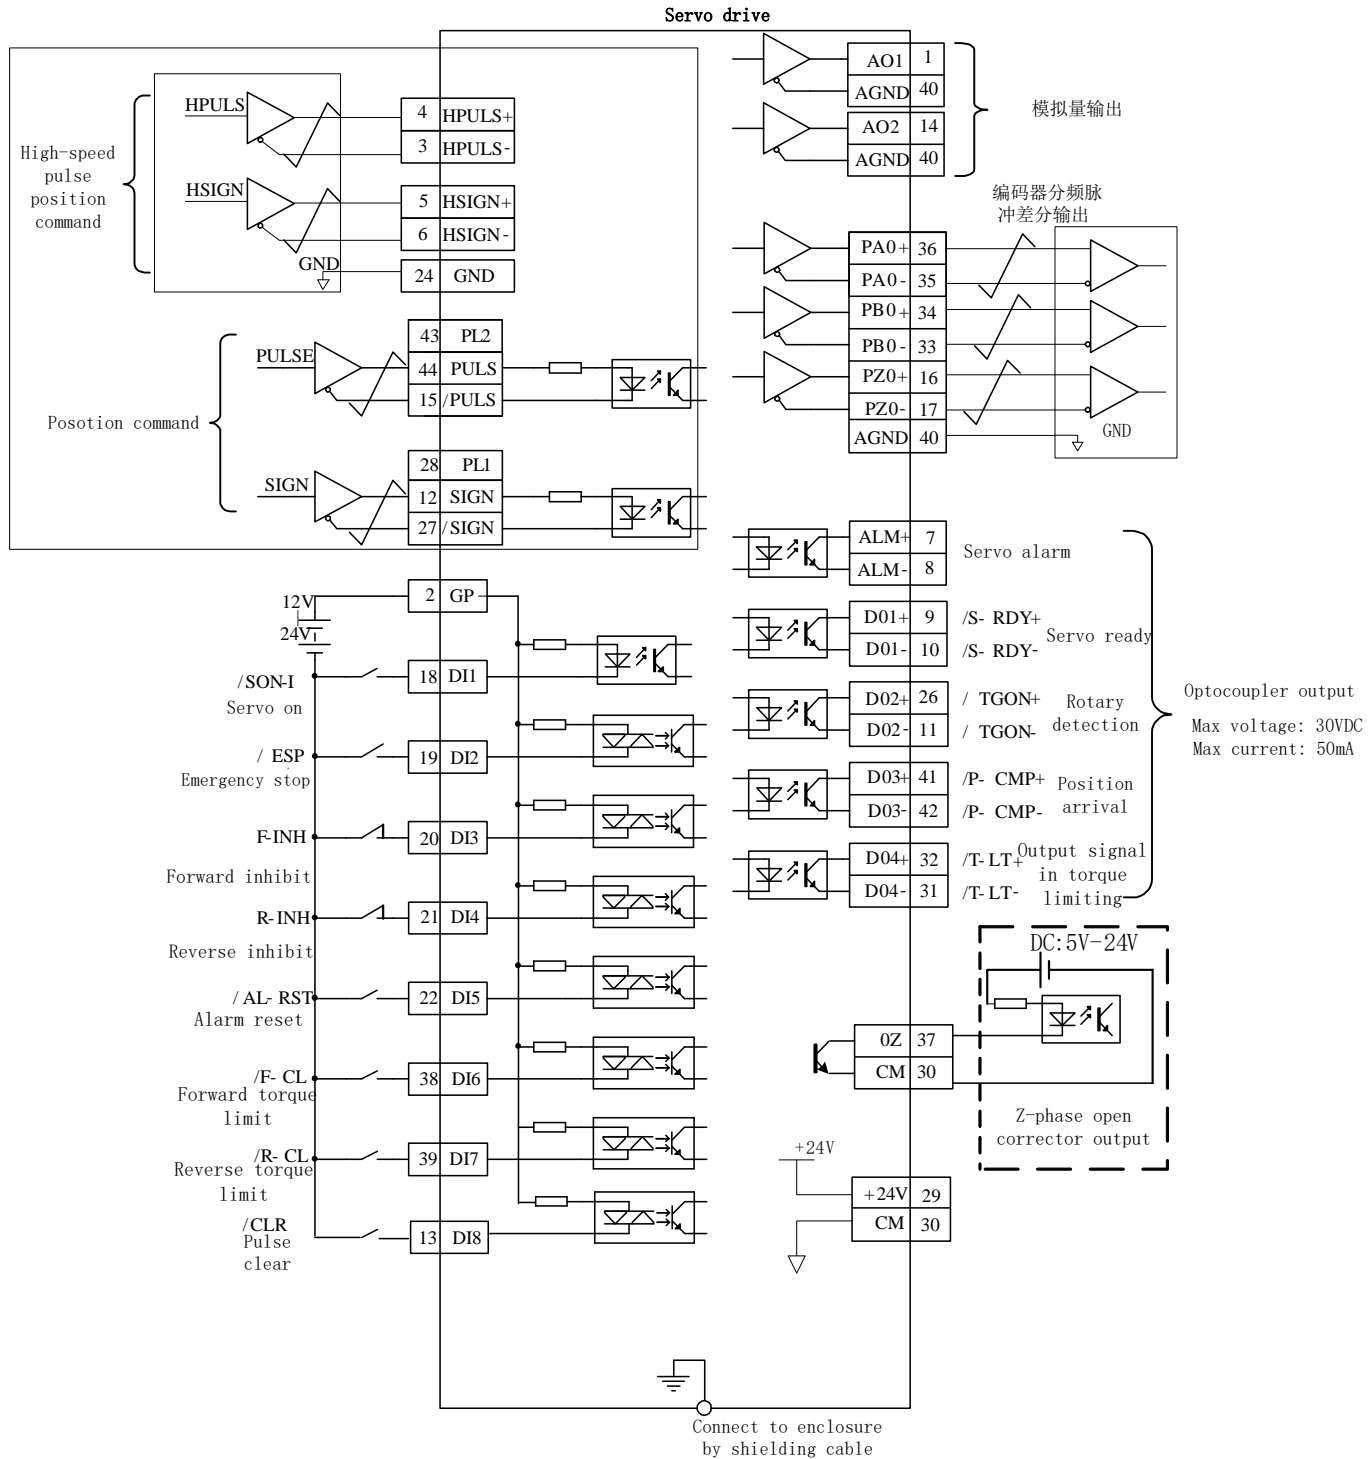

Fig 6.4.2 Wiring diagram of position pulse mode
- ★ Refer to Fig 6.4.2 and Fig 6.4.6 to connect DI/DO.